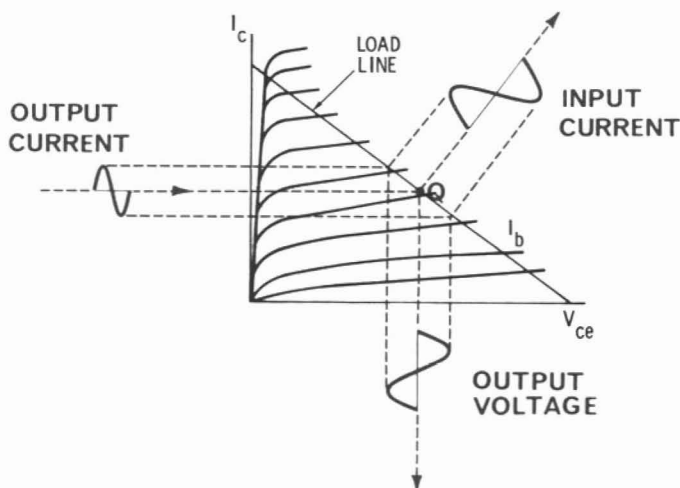

Fig. 4-4. Choice of Q point.
to the regions of nonlinearity. Fig. 4-4 shows a suitable Q point for the size input signal shown. Certain types of transistors are made to be used specifically as amplifiers and will have a large linear region available.
- Q4-6.** Referring to Fig. 4-4, why is the location of the Q point considered a good one for class-A operation?
- A4-6. The quiescent point selected in Fig. 4-4 is a good one for class-A operation because the input signal operates in a linear region. Because of this the output current and voltage are true replicas of the input signal.